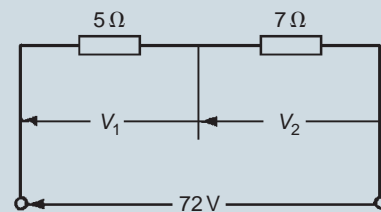

Figure 7.32
- For the circuit shown in Fig. 7.32, find (a) V_1 , (b) V_2 , without calculating the current flowing.